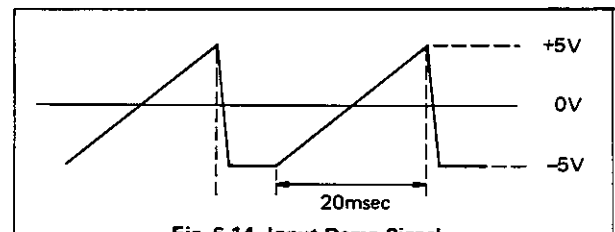

Fig. 6-14 Input Ramp Signal
- (1) Set the **TR4132/4132N POWER** switch to **OFF**. Connect the **TR1604** Connector P2 to the **TR4132/4132N** Connector J23 with the supplied cable. Check that Slide Switch S10 on the connector panel of the **TR4132/4132N** is set to the **TR1604** side. After the **TR1604 MEMORY** switch is set to **ON**, turn the **TR4132/4132N POWER** switch **ON**.
- (2) Check that the ramp signal (X' IN.) as shown in Fig. 6-14 is observed at Pin 9 of Connector P2.